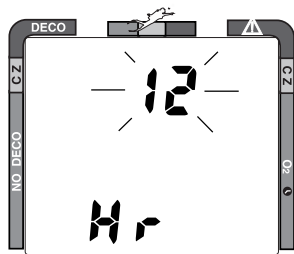

Fig. 21 - Set Hour Format
- the **Hour Format** appears flashing (Fig. 21)